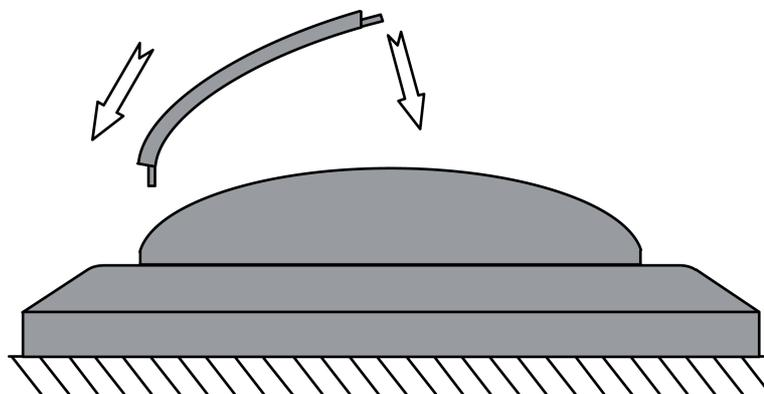

Figure 15: Mount the cover at 90°
- Mounting the cover (Figure 15). Detection angle approx. 90°.